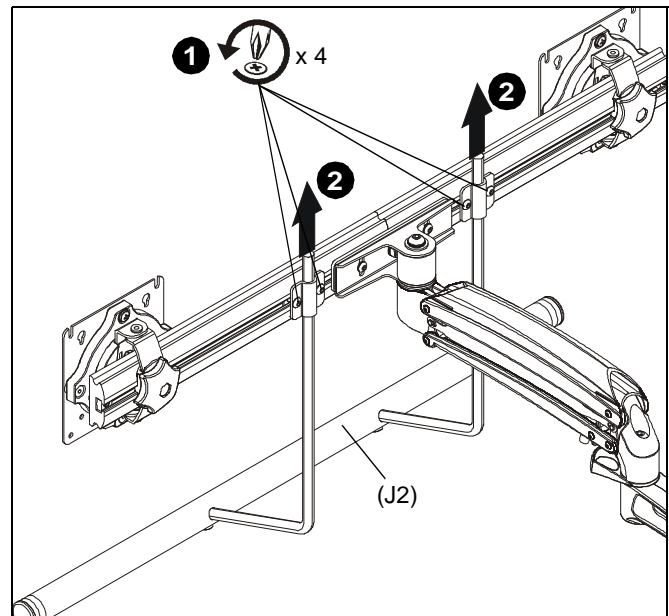

Figure 17
1. Loosen four screws securing handle brackets to K1C22H array. (See Figure 17)
2. Install uprights of handle (J) into handle brackets located on the back of K1C22 array. (See Figure 17)